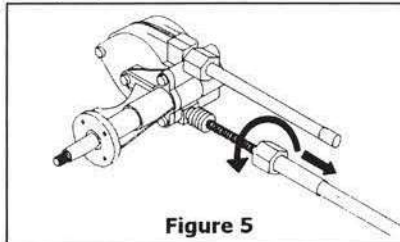

Figure 5
STEP 1. Disconnect the cable body from helm by turning the cable-retaining nut counterclockwise until free. (See Figure 5)